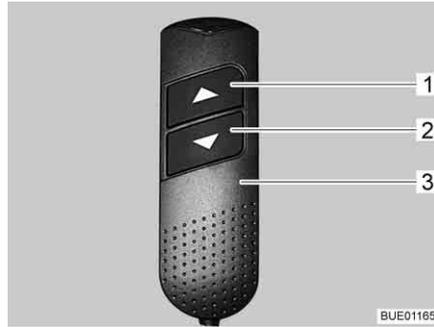

Fig. 98 Manual control unit
- On the manual control unit (Fig. 98,3) press both arrow keys (Fig. 98,1 and 2) simultaneously and keep them pressed until the pull-down bed has moved fully up or down and there is an audible beep tone.
- On the manual control unit (Fig. 98,3), press the bottom arrow key (Fig. 98,2) and keep it pressed until the pull-down bed has moved down into its end position.
- On the manual control unit (Fig. 98,3), press the top arrow key (Fig. 98,1) and keep it pressed until the pull-down bed has moved up into its end position.
- After resetting, use the arrow key (Fig. 98,1 or 2) to move the pull-down bed in the opposite direction as far as the end position.